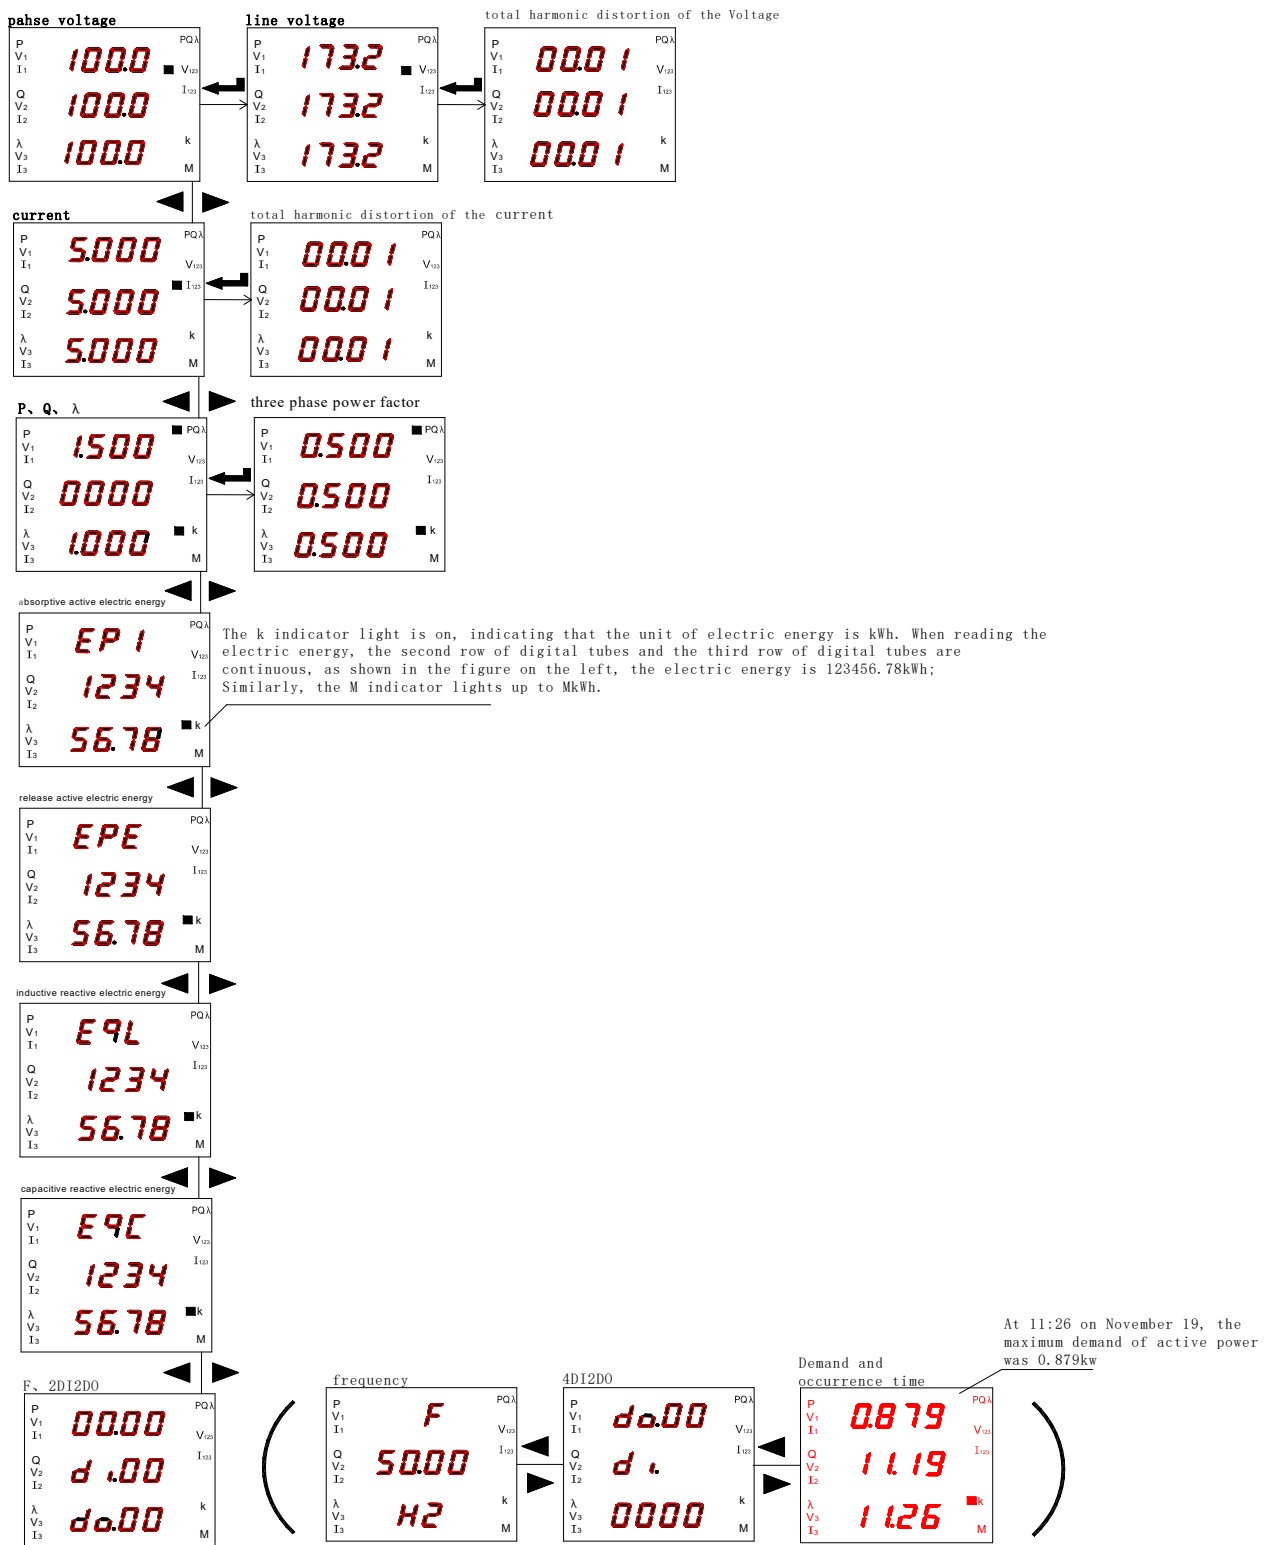
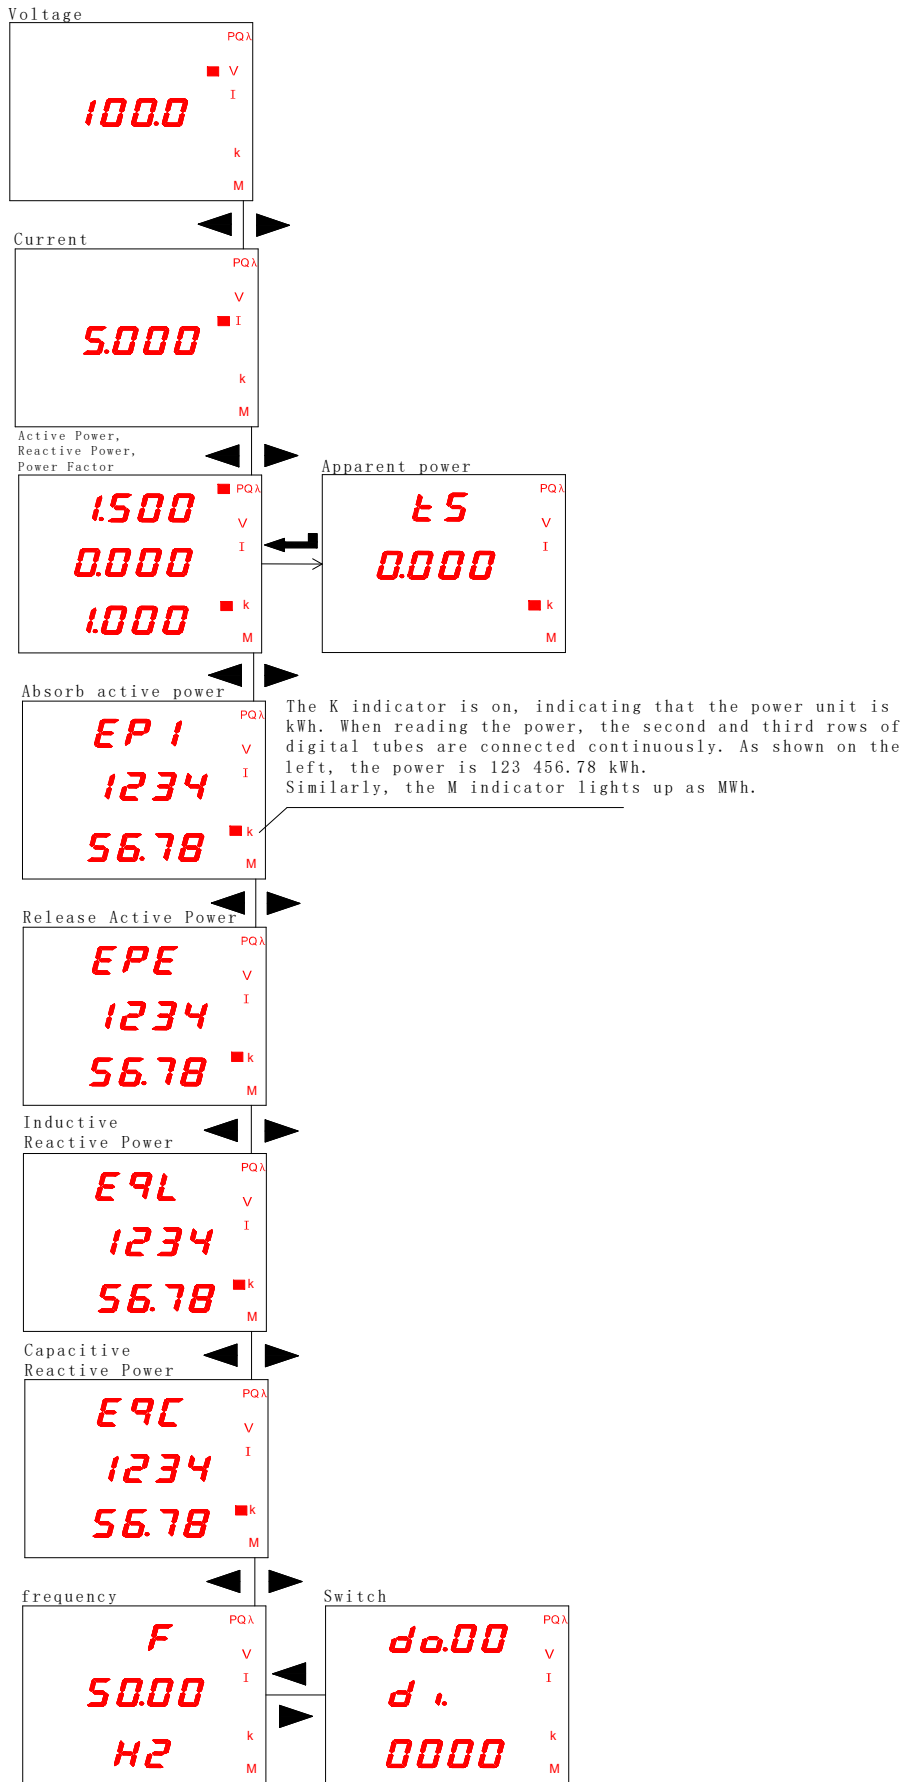

Figure 16
Figure 17
5.2.1 The operation steps of checking the current, voltage, power, electric energy and frequency of PZ72/80/96 are shown in FIG. 16 and FIG. 17.
5.2.3 The steps for viewing various types of power parameters of the PZ72L/80L/96L are shown in Figure 16,17.